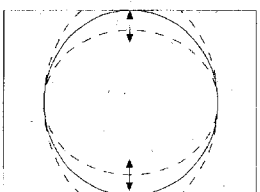

Fig. 9
- Adjust the the vertical size to obtain overscan (fig. 9).